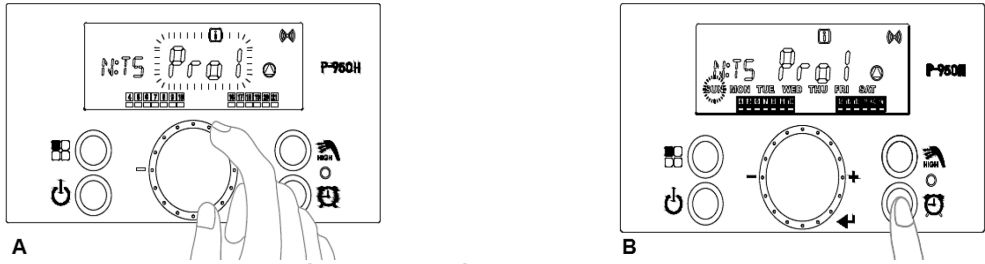

Figure 55 - A - Selecting a Recirculation Function, B - Entering Day Setting
- c. Turn the dial button at the "Pro1", "Pro2", "Pro3", or "PULS" screens to select a Recirculation Function. See Figure 55 A. Press the button to select the mode.
- d. Press the button to enter the day setting. See Figure 55 B.